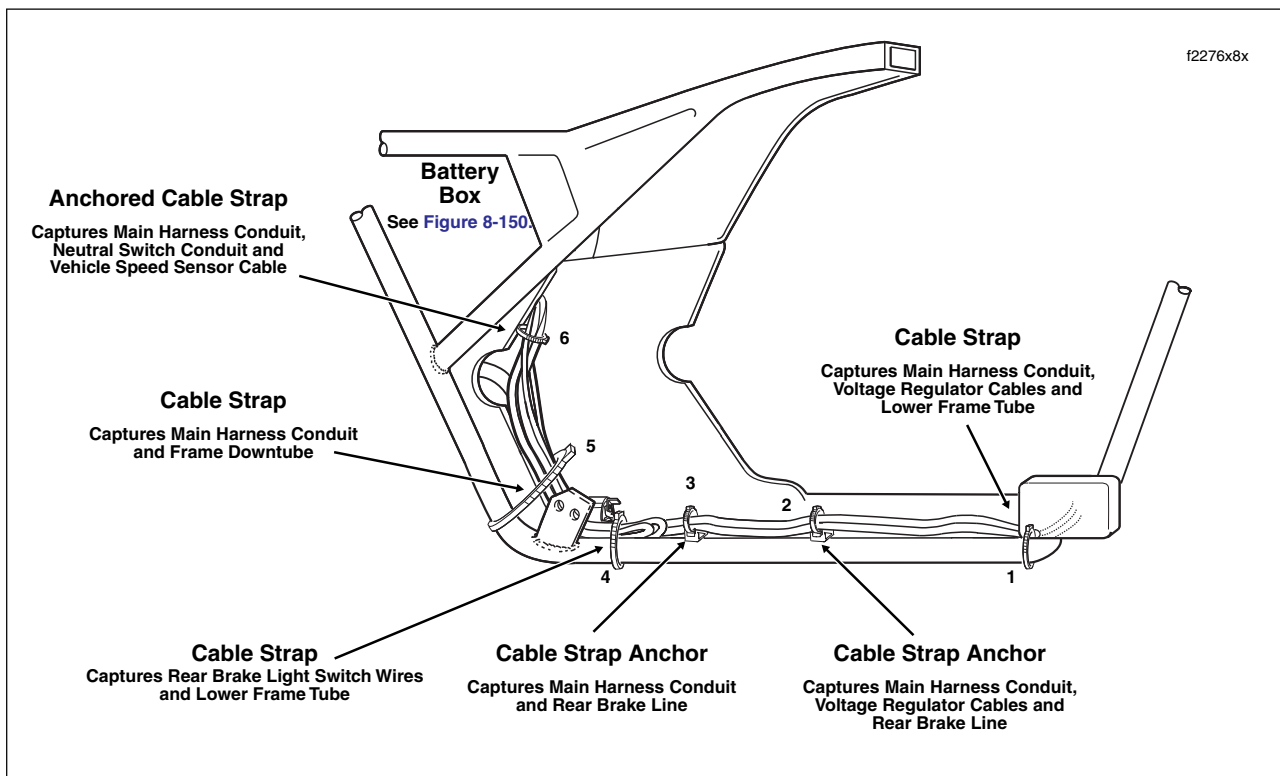

Figure 8-151. Cable Straps (Right Side View)
19. Cut cable strap to free voltage regulator cables and main harness conduit (leading to oil pressure sender and crankshaft position sensor connectors) from inboard side of rear brake pedal weldment. See Figure 8-151.
17. Install **new anchored** cable strap in hole of frame downtube (inboard of rear swingarm bracket) capturing vehicle speed sensor cable, main harness and neutral switch conduit. See Figure 8-151.
23. Route main harness conduit inboard of rear brake pedal weldment. Capturing main harness conduit and lower frame tube, install **new** cable strap through opening in rear brake pedal weldment. See Figure 8-151. Cut any excess cable strap material.